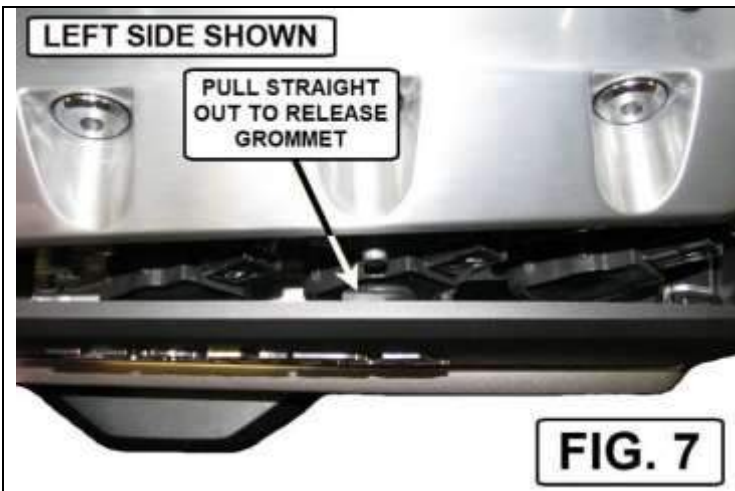

FIG. 7
7. PULL THE LOWER COWL OUT AND FORWARD TO RELEASE IT. THERE IS A RUBBER GROMMET IN THE MIDDLE OF THE PANEL. SEE FIG. 7.